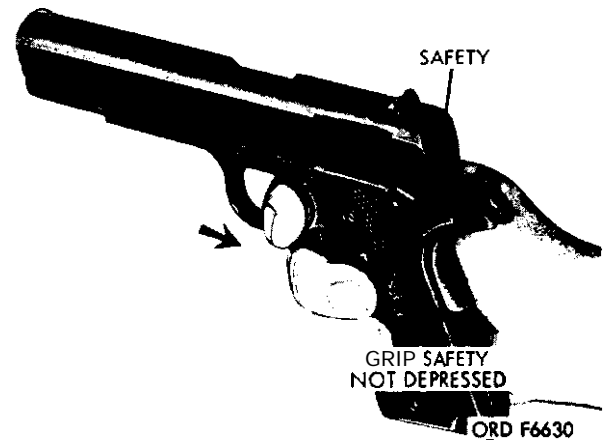

Figure 12. Grip safety test.
- (2) **Grip safety test (fig. 12).** With the pistol unloaded, cock the hammer and without depressing the grip safety point the pistol downward and squeeze the trigger three or four times. If the hammer falls because the grip safety is depressed by its own weight, the grip safety may be corrected by replacing sear spring.